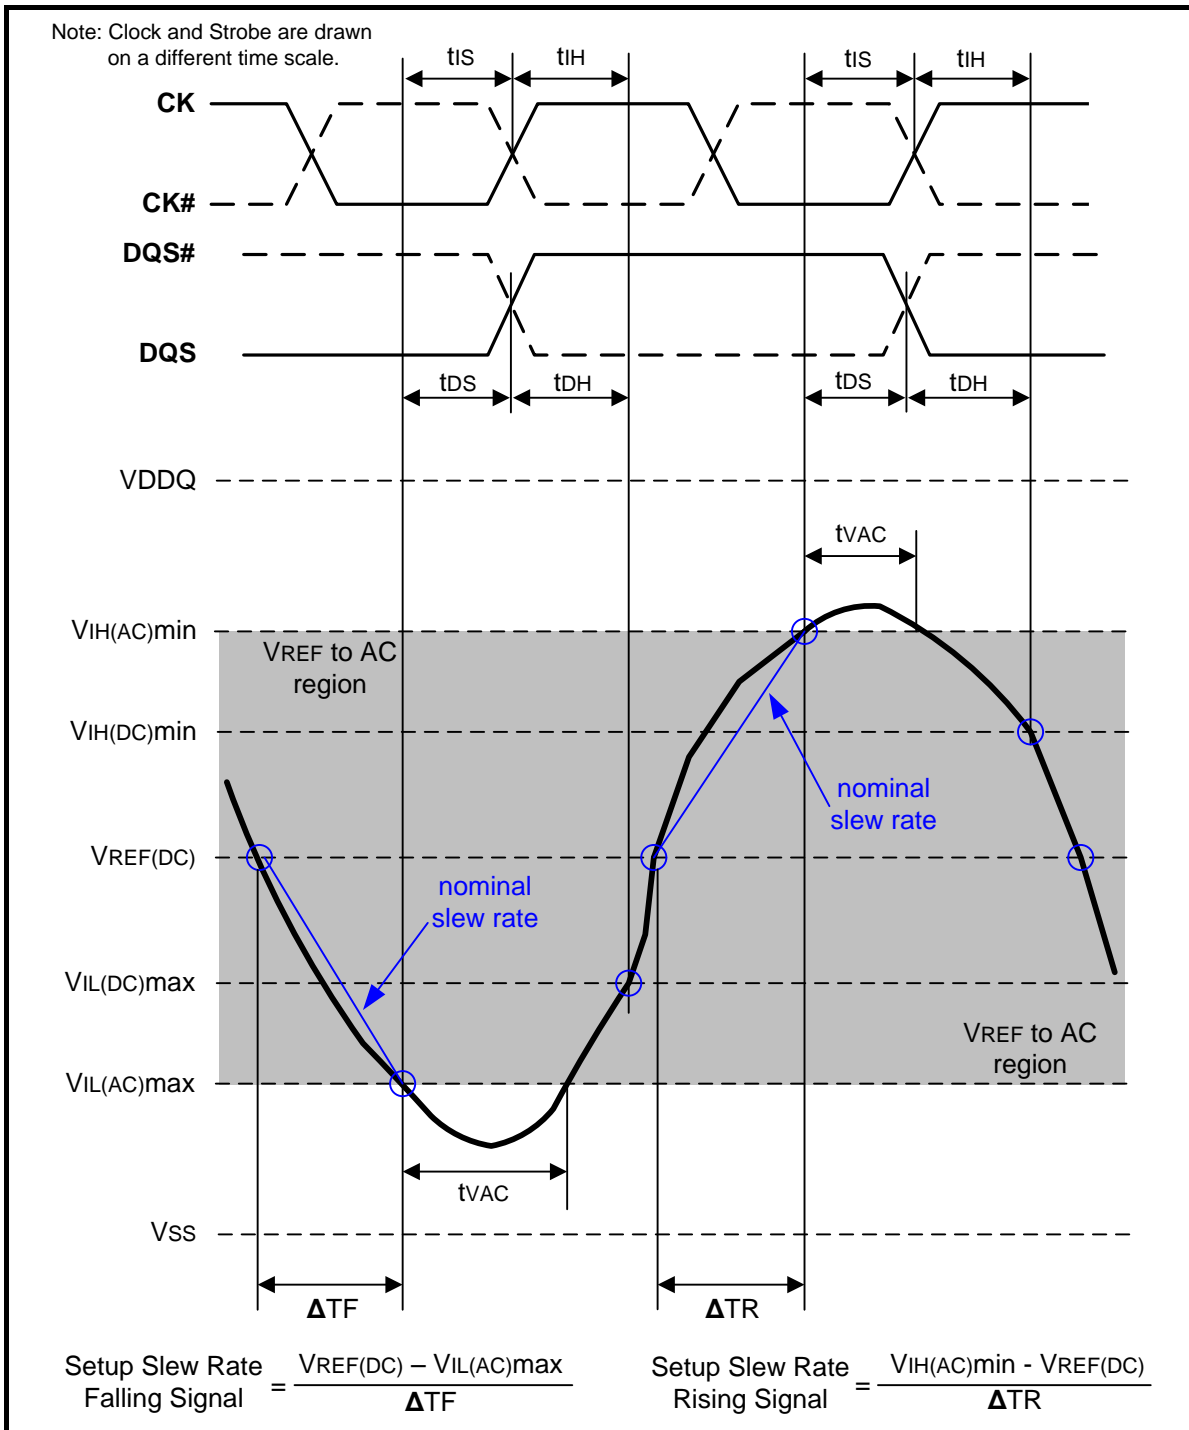
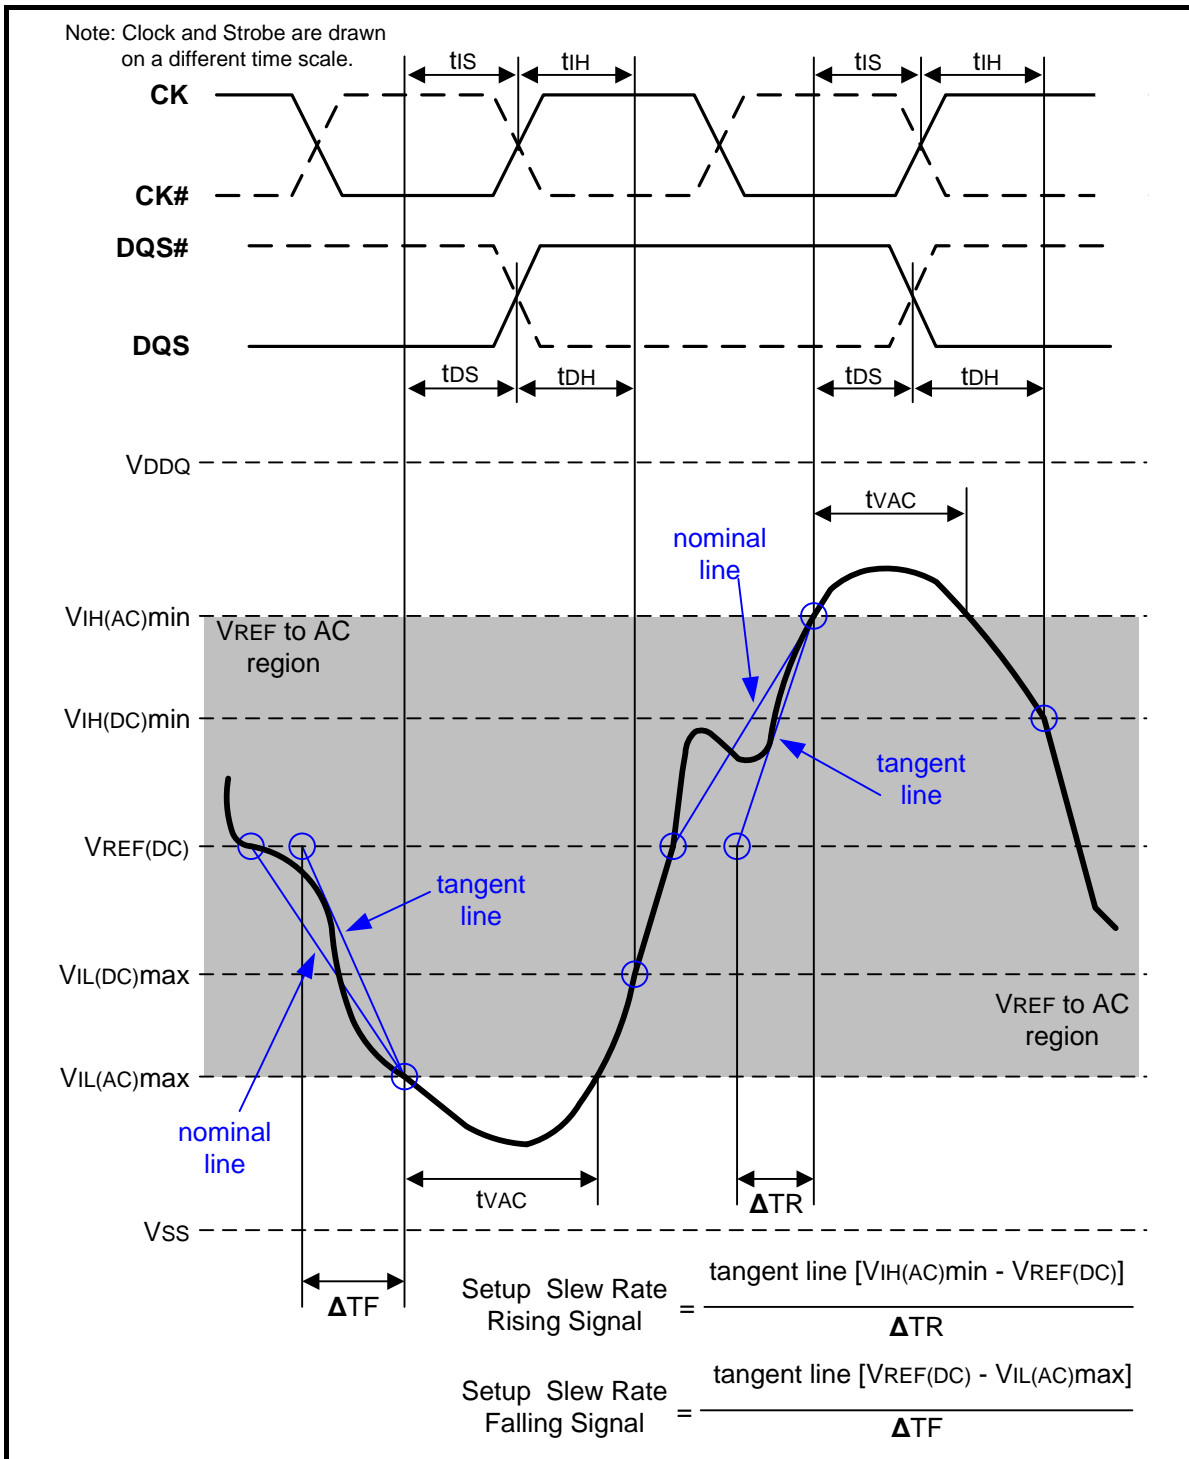

Figure 107 – Illustration of nominal slew rate and tvac for setup time tds (for DQ with respect to strobe) and tis (for ADD/CMD with respect to clock)
Figure 109 – Illustration of tangent line for setup time  $t_{DS}$  (for DQ with respect to strobe) and  $t_{IS}$  (for ADD/CMD with respect to clock)
Setup ( $t_{IS}$ ) nominal slew rate for a rising signal is defined as the slew rate between the last crossing of  $V_{REF(DC)}$  and the first crossing of  $V_{IH(AC)min}$ . Setup ( $t_{IS}$ ) nominal slew rate for a falling signal is defined as the slew rate between the last crossing of  $V_{REF(DC)}$  and the first crossing of  $V_{IL(AC)max}$ . If the actual signal is always earlier than the nominal slew rate line between shaded 'VREF(DC) to AC region', use nominal slew rate for derating value (see Figure 107). If the actual signal is later than the nominal slew rate line anywhere between shaded 'VREF(DC) to AC region', the slew rate of a tangent line to the actual signal from the AC level to DC level is used for derating value (see Figure 109).
Setup (tDS) nominal slew rate for a rising signal is defined as the slew rate between the last crossing of VREF(DC) and the first crossing of VIH(AC)min. Setup (tDS) nominal slew rate for a falling signal is defined as the slew rate between the last crossing of VREF(DC) and the first crossing of VIL(AC)max (see Figure 107). If the actual signal is always earlier than the nominal slew rate line between shaded 'VREF(DC) to AC region', use nominal slew rate for derating value. If the actual signal is later than the nominal slew rate line anywhere between shaded 'VREF(DC) to AC region', the slew rate of a tangent line to the actual signal from the AC level to DC level is used for derating value (see Figure 109).